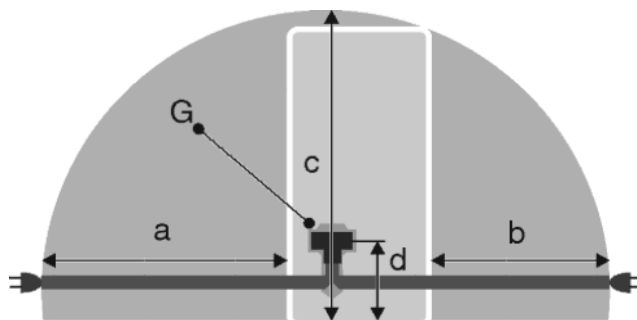

Fig. 19
- The socket is outside the back of the appliance area in the specified area *Fig. 19 (a, b, c)*.
- Insert the appliance plug *Fig. 19 (G)* into the back of the appliance. Ensure that it clicks into place.